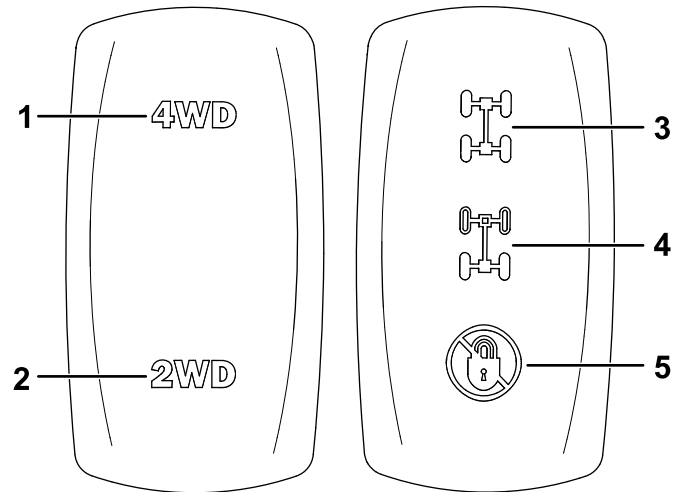

Figure 73
2. Press the 2-wheel drive/4-wheel drive switch (Figure 73) up to engage 4-wheel drive.
With your foot off the accelerator pedal, disengage 4-wheel drive by pressing the 2-wheel drive/4-wheel drive switch to the down position (Figure 73).
2. Press the differential-lock switch to the mid position to engage the rear differential lock (Figure 73).
Press the differential-lock switch to the up position to engage the front and rear differential locks (Figure 73).
With your foot off the accelerator pedal, disengage the differential lock(s) by pressing the differential-lock switch to the down position (Figure 73).